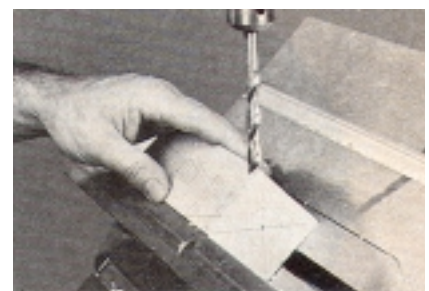

Fig. 2. Cutting out the fueslage profile on the bandsaw.
3: Cut out the contours. Transfer the side and top profiles to the fuselage (A), and draw a 1" diameter circle on the nose of the fuselage. First, form the dado for the wing...then cut the tail slot. Cut out the remainder of the profiles on the Bandsaw (See Fig. 2).